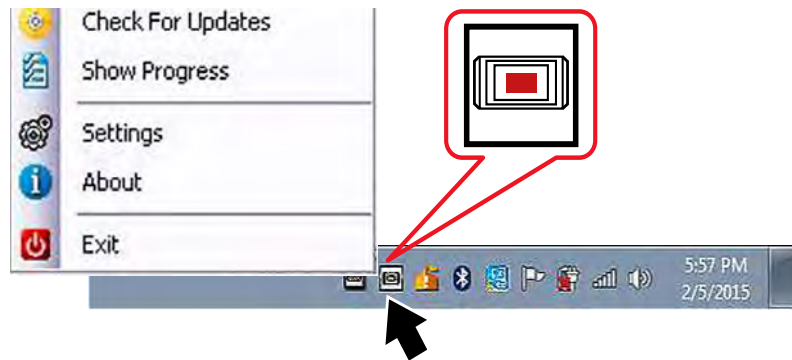
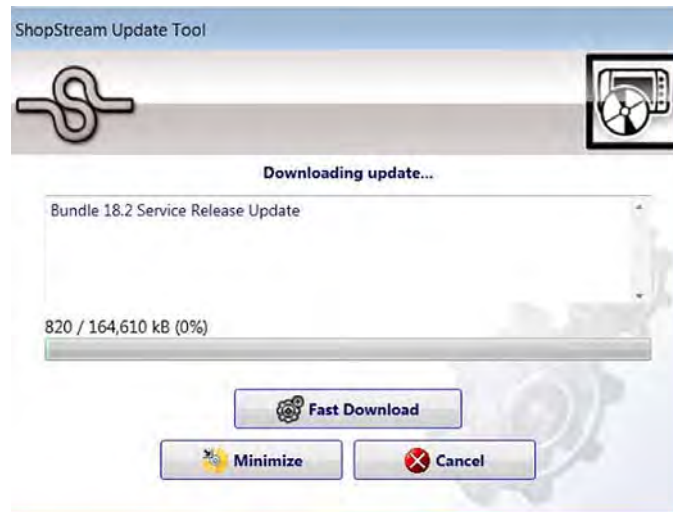

Figure 15-5 ShopStream Update Tool icon and menu
Figure 15-7 Typical - Update status window
1. Select the SST icon in the Windows taskbar notification area to open the menu (Figure 15-5).
- If updates are found, they will automatically begin to download (Figure 15-7).
To view the update status window (Figure 15-7), select **Show Progress** from the SST icon menu (Figure 15-5).
The percentage status bar may not always be displayed while downloading (Figure 15-7).